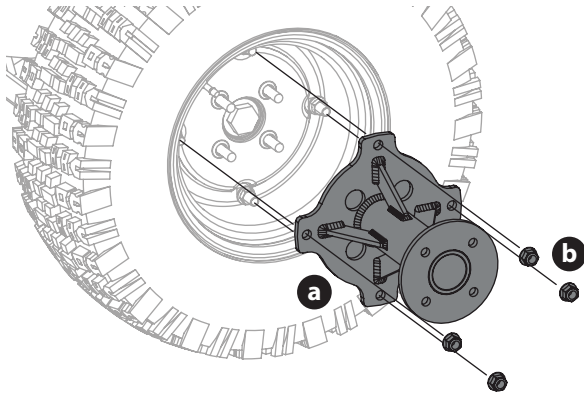

Figure 2
2. If necessary, remove the dual wheel adapter (a) by removing the four flange lock nuts (b) (Figure 2).